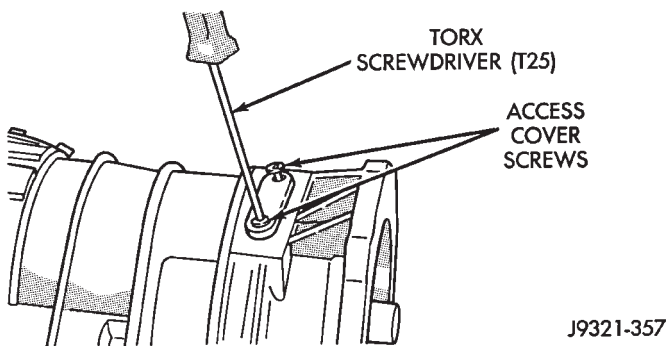

Fig. 233 Locating Ring Access Cover And Gasket Installation
(10) Install locating ring access cover and gasket in overdrive unit case (Fig. 233).